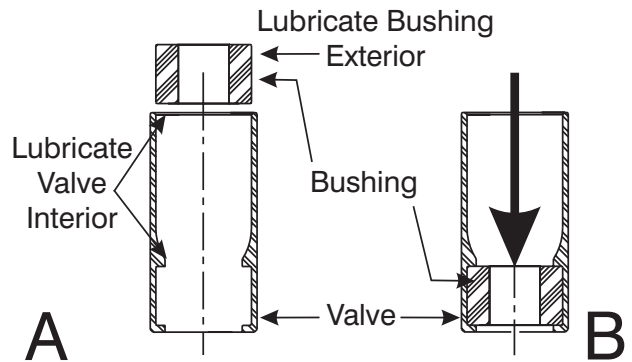

Figure 9-4. Press Bushing into Valve
1. Position the Valve (6) in an arbor press with the its larger bore up as shown in Figure 9-4-A.
2. Refer to Figure 9-4-A, and lubricate:
3. Center the Bushing (5) over the bore of the Valve as shown in Figure 9-4-A.
4. Center the press plunger or a pusher bar over the Bushing (5).
5. Press the Valve Bushing (5) into the Valve (6) until the Bushing seats in the lower part of the Valve, as shown in Figure 9-4-B.